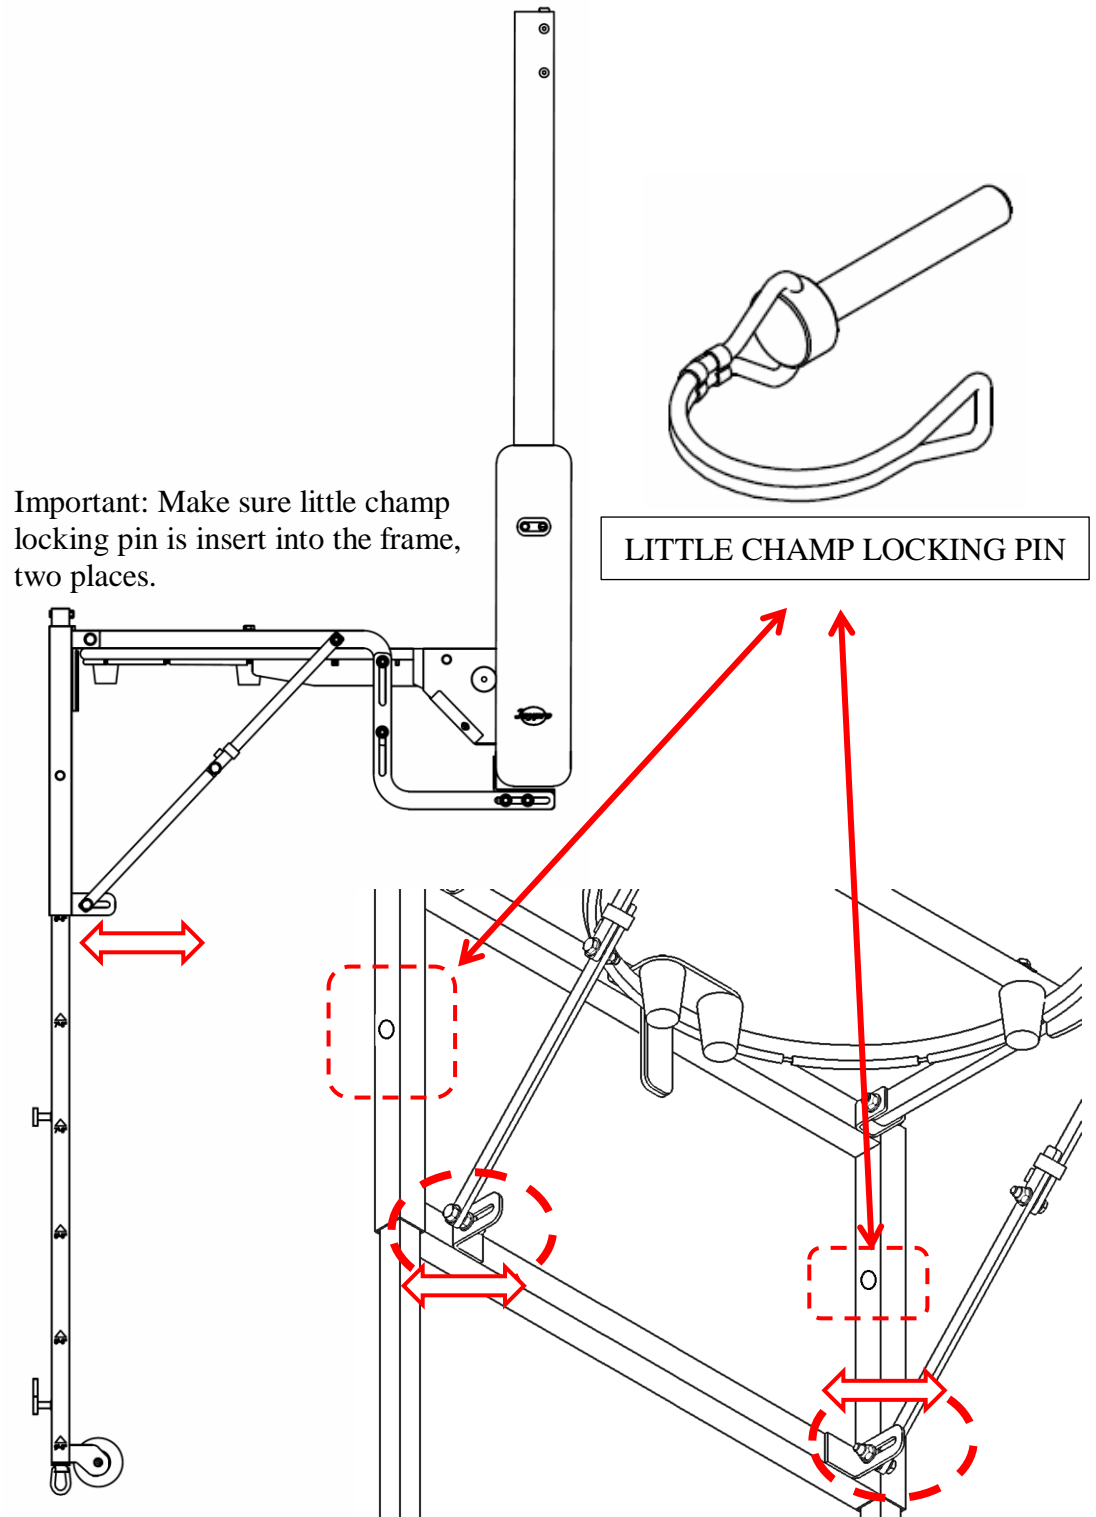

Figure 4 (*Little Champ Plum Adjustment*)
- 4) Using a level, adjust the front frame to make it plumb (see Figure 4). Secure all hardware.